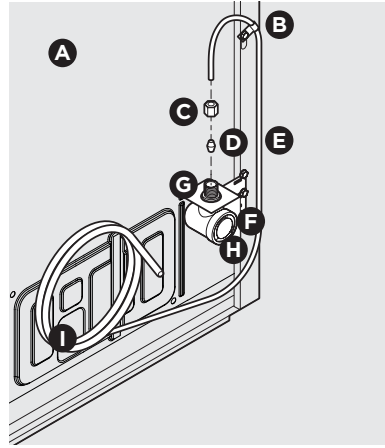
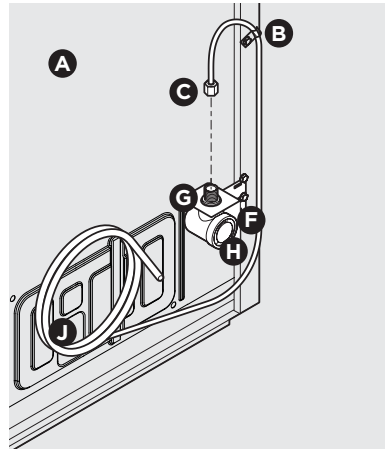

Figure 1
Figure 2
4. If you use **copper tubing** - Slide the brass compression nut, and then the ferrule (sleeve) onto the water supply line. Push the water supply line into the water valve inlet as far as it will go ( $\frac{1}{4}$ "/6,4 mm). Slide the ferrule (sleeve) into the valve inlet and finger tighten the compression nut onto the valve. Tighten another half turn with a wrench; DO NOT overtighten. See Figure 1.
If you use **braided flexible stainless steel tubing** - The nut is already assembled on the tubing. Slide the nut onto the valve inlet and finger tighten the nut onto valve. Tighten another half turn with a wrench; DO NOT overtighten. See Figure 2.
B	Steel Clamp (Fig. 1: $\frac{1}{4}$ "; Fig. 2: $\frac{1}{2}$ " )